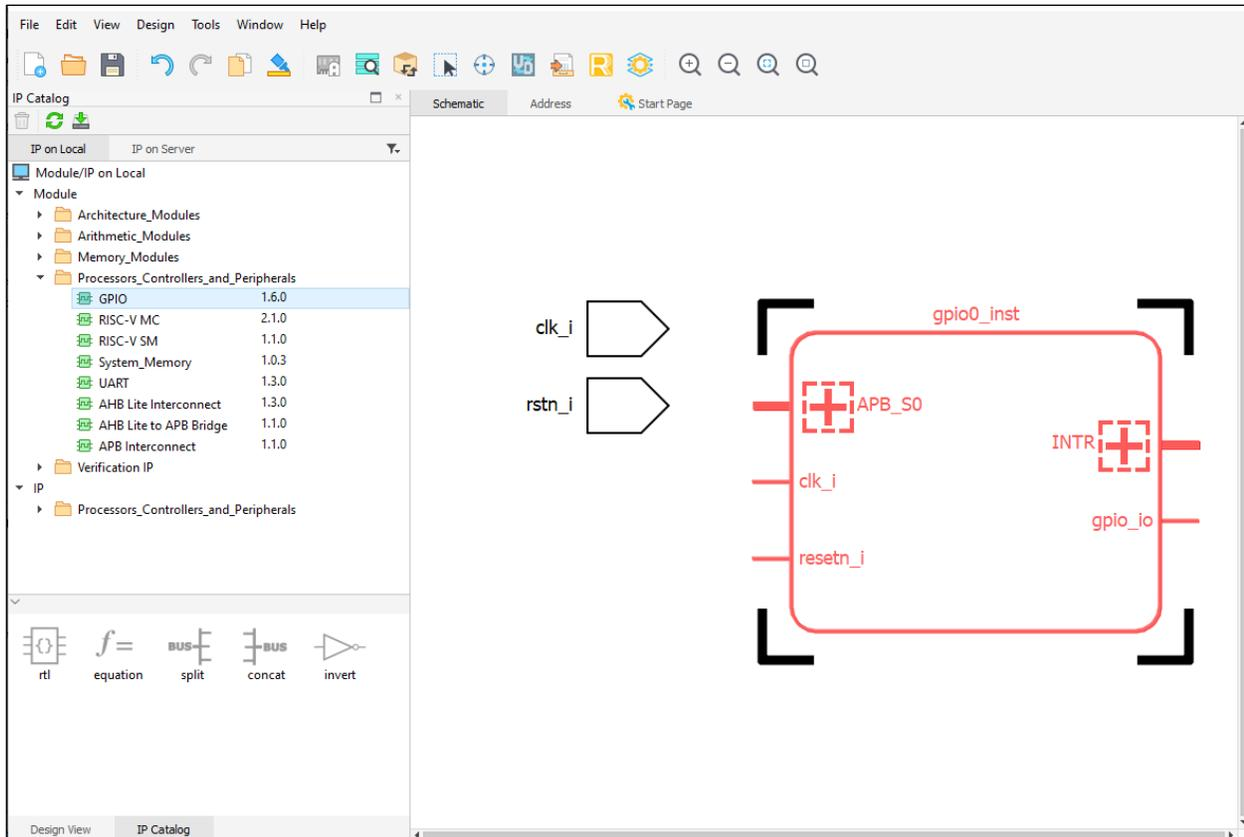

Figure 2.32. Select Object
- Click on the object in the Schematic view. The selected object turns to red (Figure 2.32).